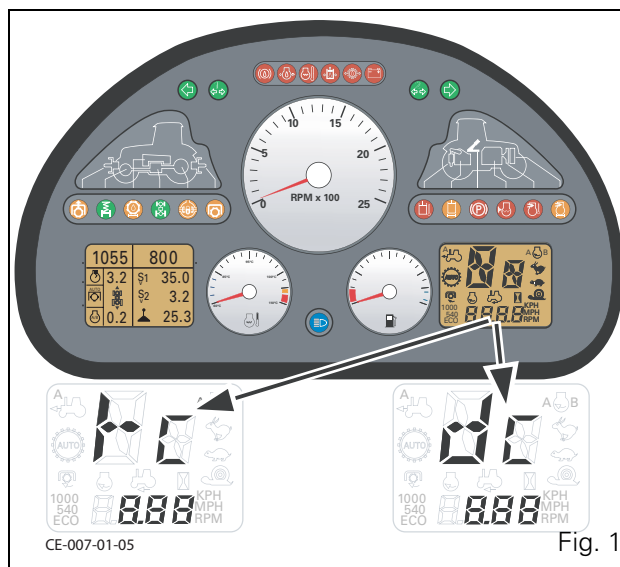

Fig. 1
1. Turn on the ignition key, the TC and DC symbols flash on the right-hand screen of the instrument panel (Fig. 1).